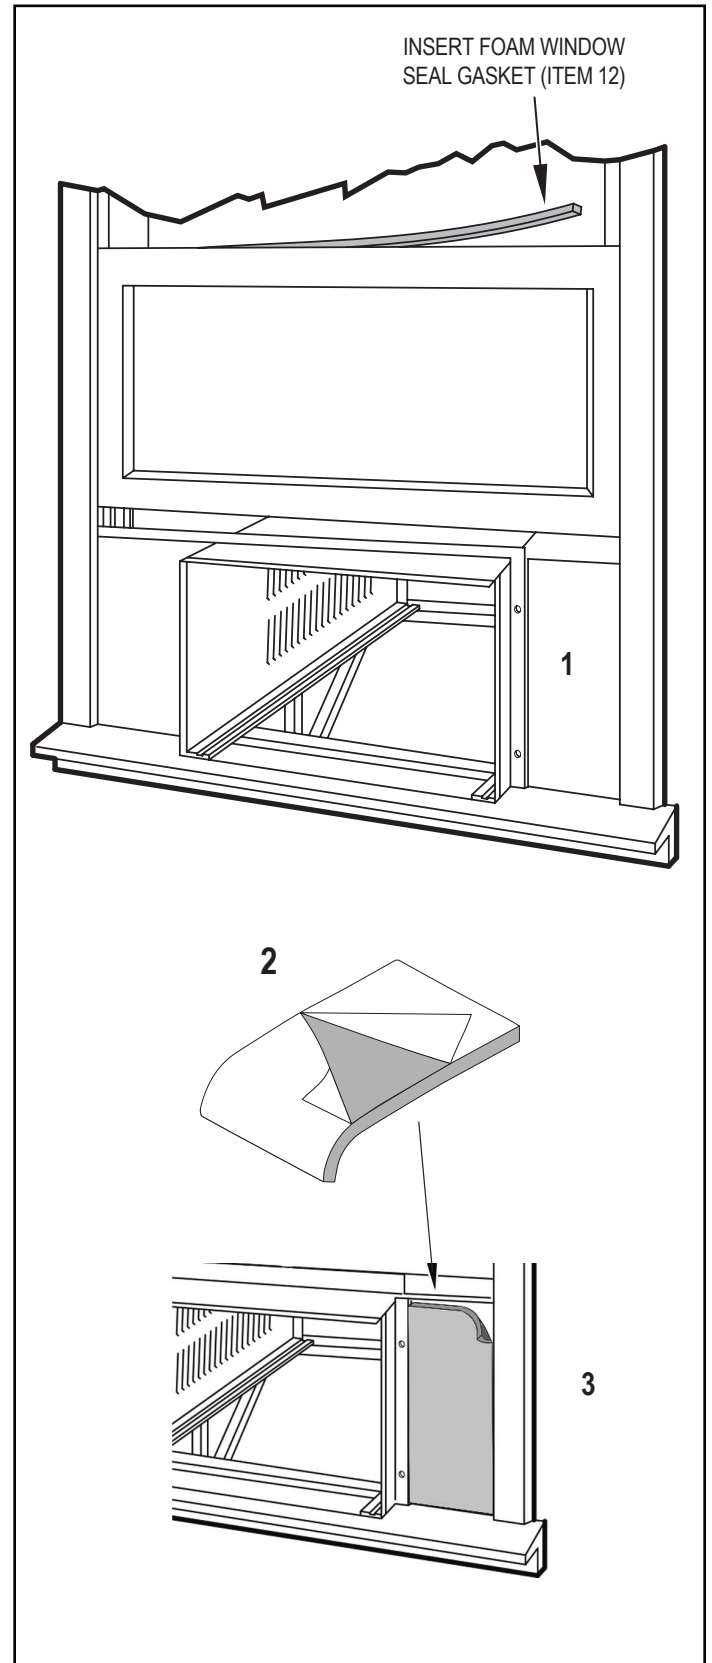

Figure C.4.14
STEP 10. INSTALL THE R1 INSULATION PANEL – To minimize air leaks and ensure optimal insulation, install the included R1 insulation panel (14 in parts list) (see Figure C.4.14).